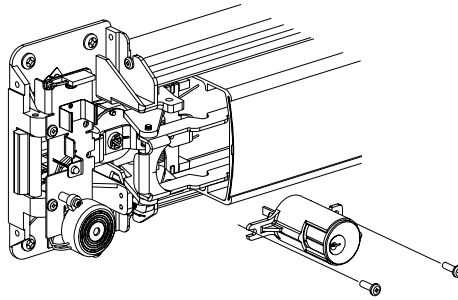

Figure 4
- 4 Remove cylinder bracket (Figure 4).